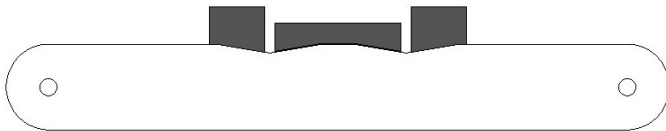
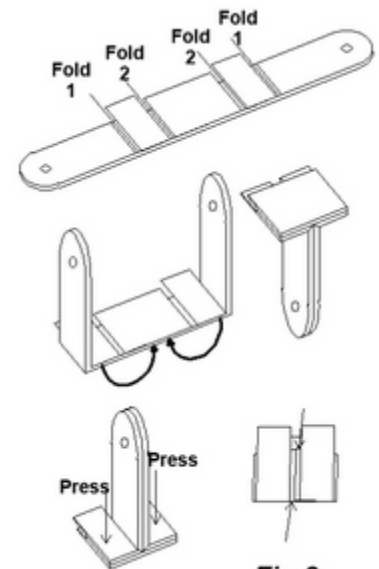

Fig 7
Fig 8
Remove the slide fulcrums (4) from the etched sheet (note that there is 1 spare for this critical component). Apply solder resist (indelible ink marker pen) to the half-etched areas (on the half-etched side) that will form the spring retainer slot (Fig 7). Bend the outer parts through a little over 90° (Folds 1), and then fold backwards through 180° (Folds 2) at the inner etched line. Note that the fulcrum slides are "sided" the upper edge being plain and the lower edge with a half-etched border to create a channel for location of the spring wire. Be careful in handling to ensure this doesn't become distorted, or the spring wire will not fit. (fig 8)
Remove the slide fulcrums (4) from the etched sheet (note that there is 1 spare for this critical component). Apply solder resist (indelible ink marker pen) to the half-etched areas (on the half-etched side) that will form the spring retainer slot (Fig 7).